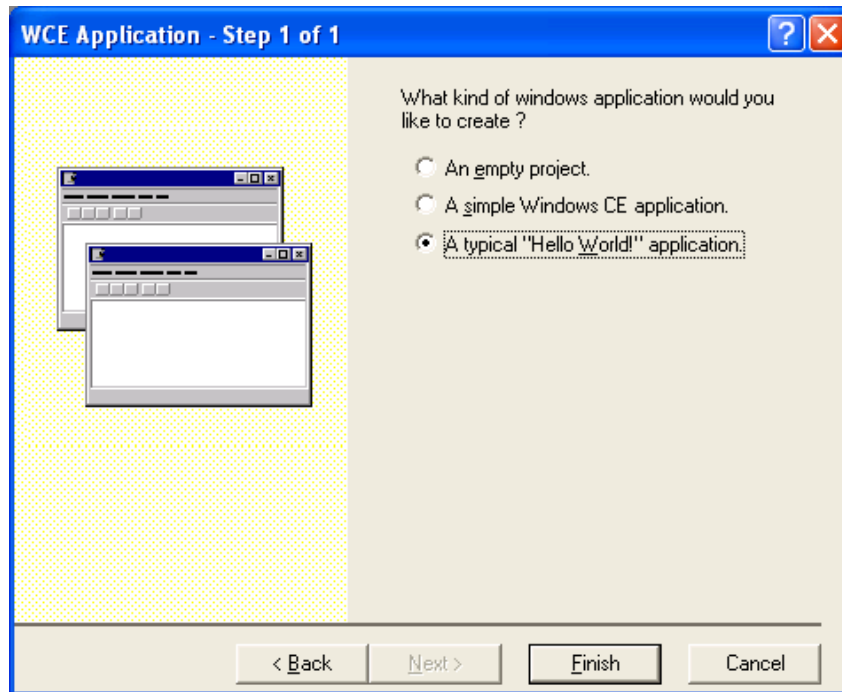

Figure 3.2: Select 'A typical Hello World application' and click 'Finish'
2. Next, select 'A Typical Hello World Application' and click 'Finish.' See Figure 3.2 below.